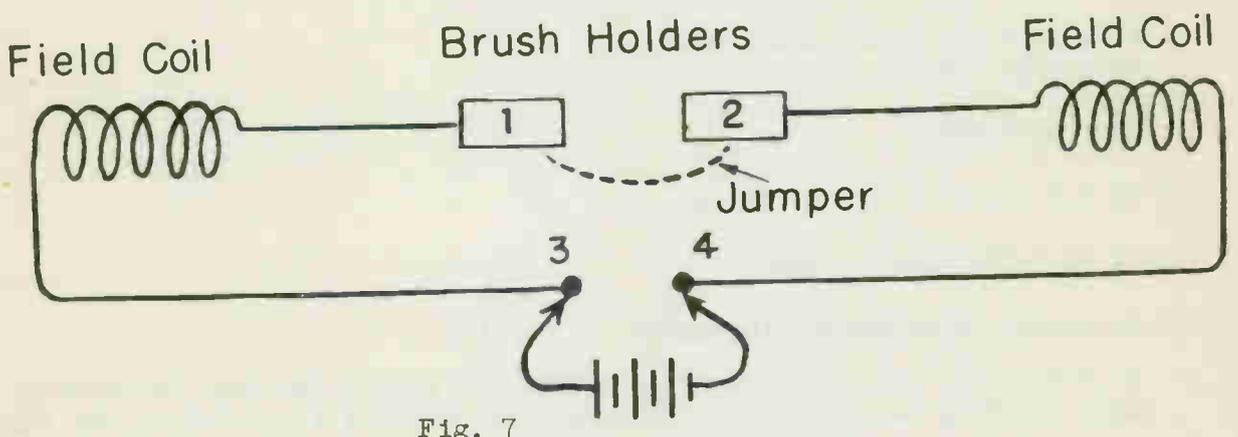

Fig. 7
- c. Shorts, place jumper between two brush holders and apply six volt d-c to motor terminals. Take voltage reading across each coil, Fig. 7.